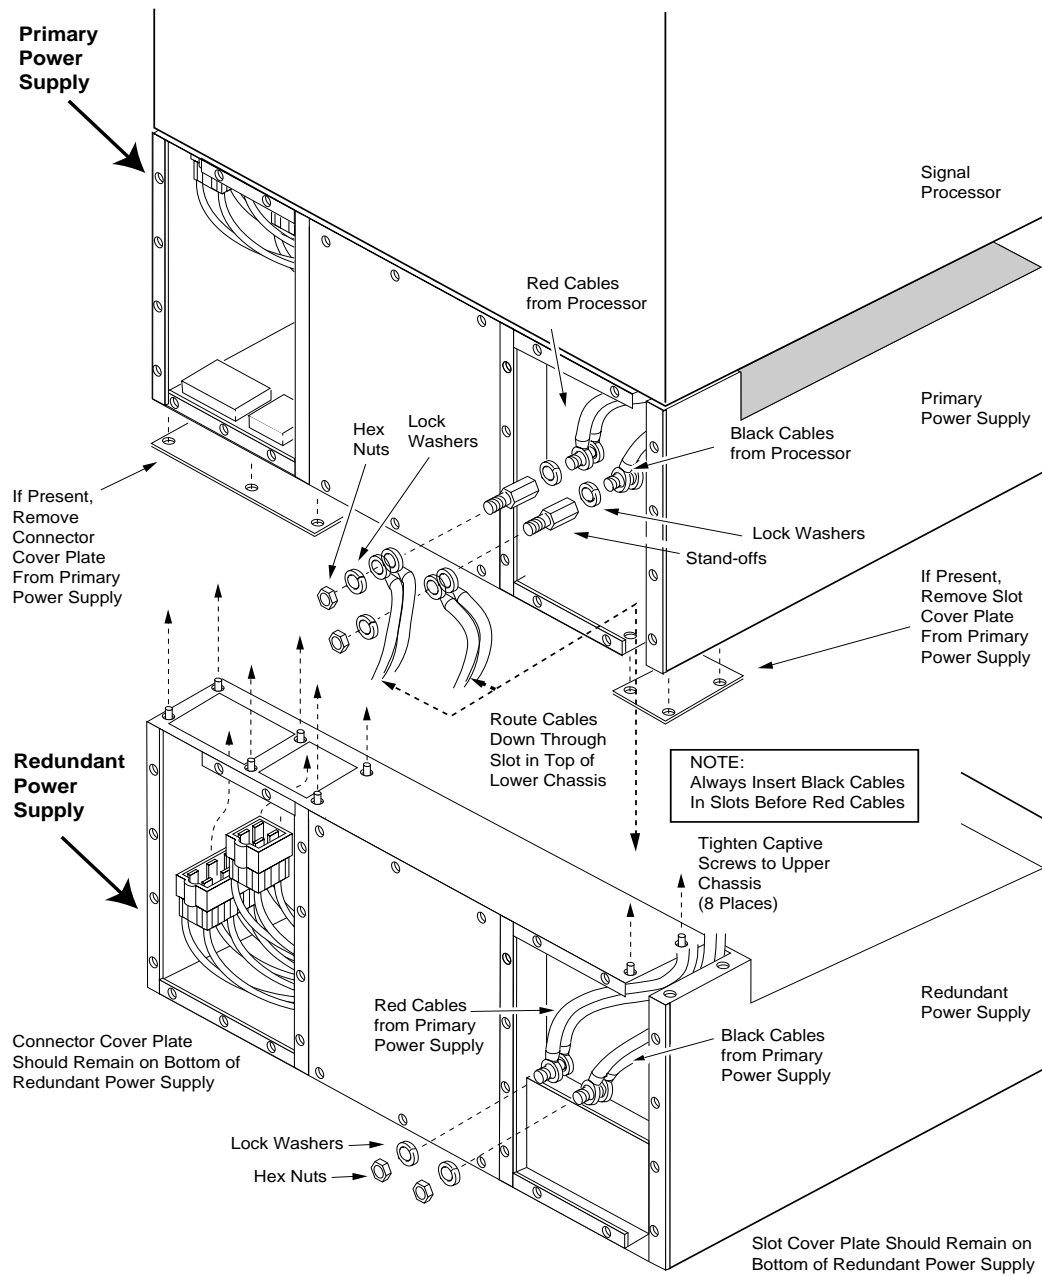
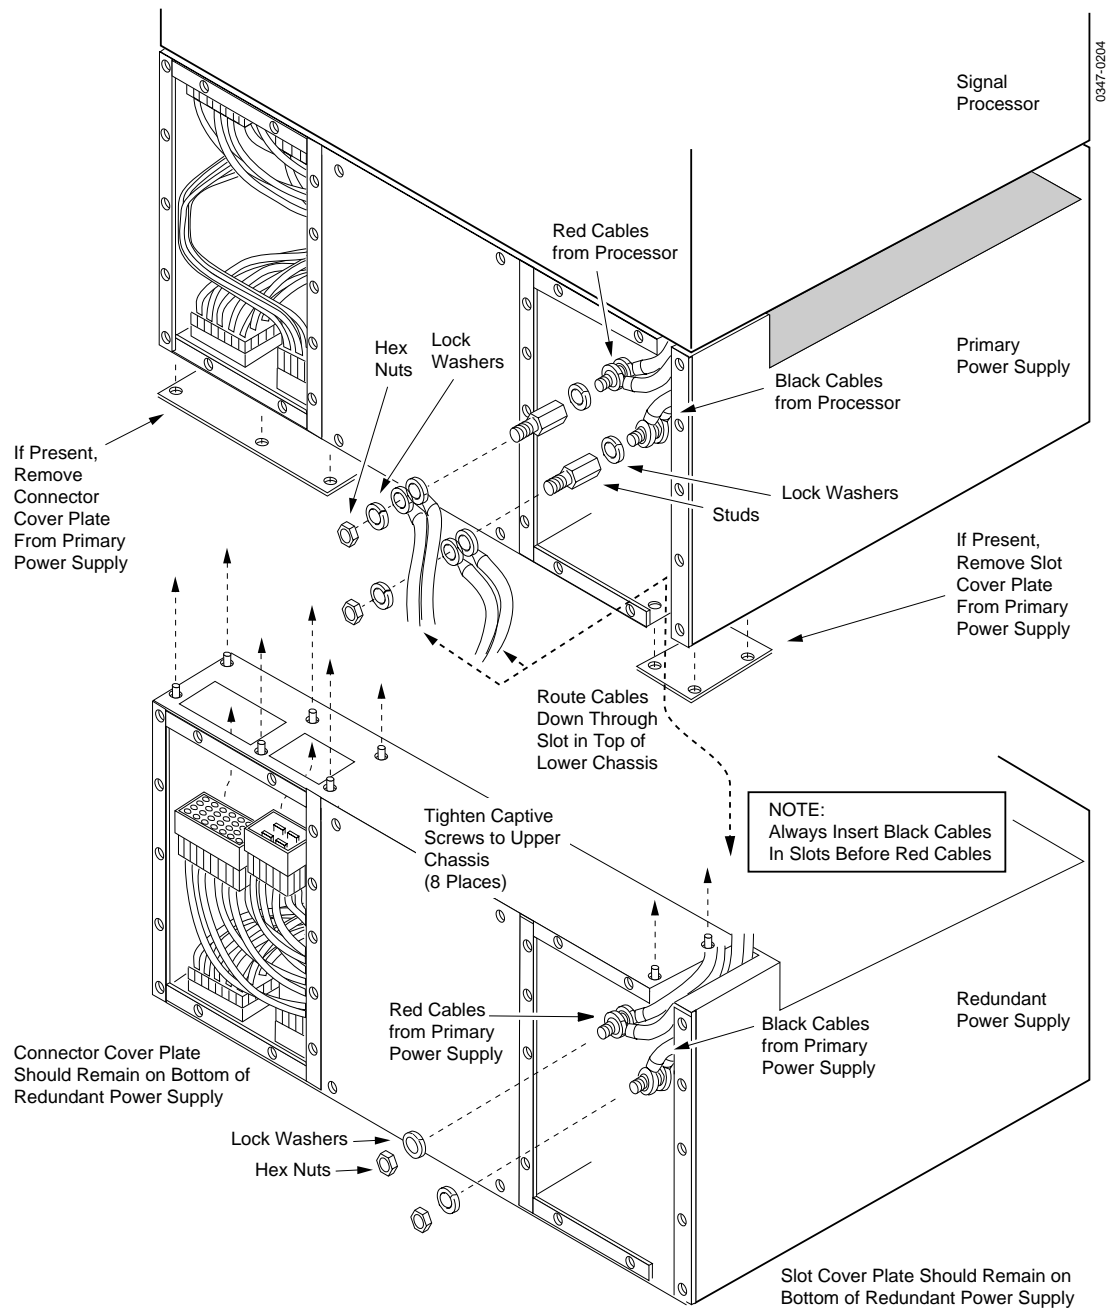

Figure 2-20. Redundant Power Supply Installation (Pioneer Power Supply Units)
Figure 2-21. Redundant Power Supply Installation (Todd Power Supply Units)
6. Remove the connector and cable slot covers from the bottom of the Primary Power Supply (see Figure 2-20 for Pioneer Supply Units and Figure 2-21 for Todd Power Supply Units).